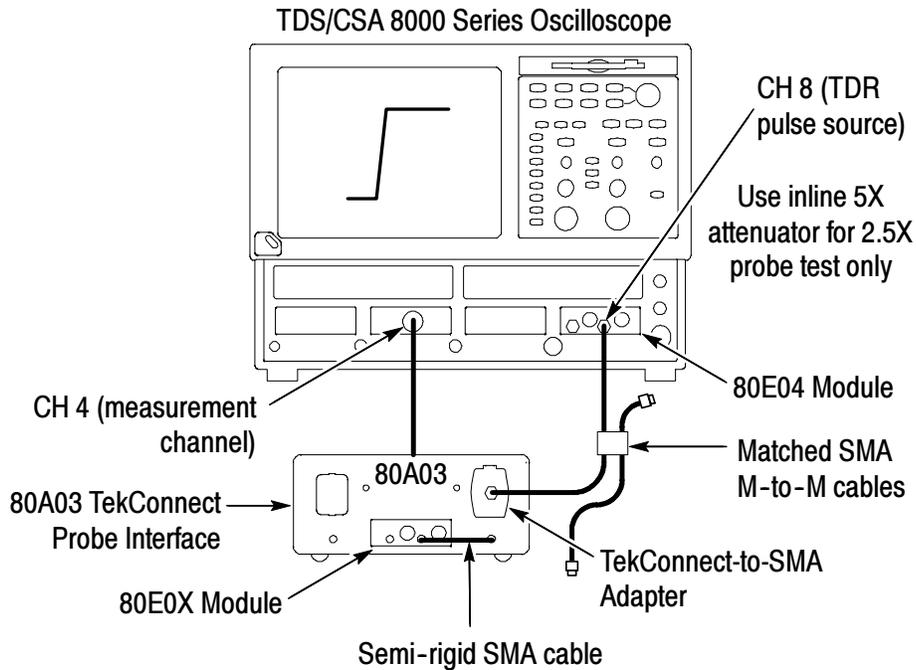

Figure 42: Test system rise time setup
2. Connect the test equipment as shown in Figure 42 on page 86.
9. Adjust the oscilloscope horizontal and vertical position controls to display a signal similar to that shown in Figure 42.